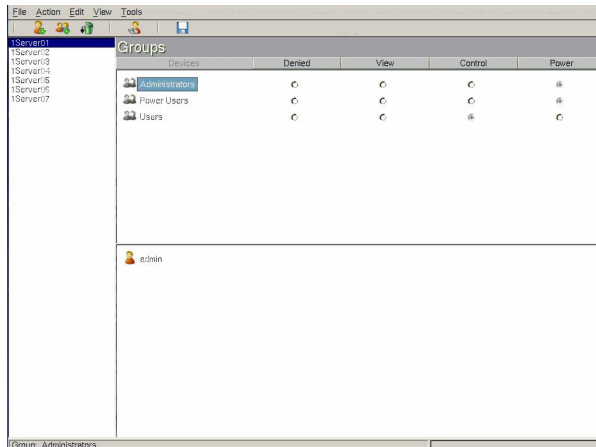

Figure 54 Details view
1. Select View/Details. The Details view appears see Figure 54.